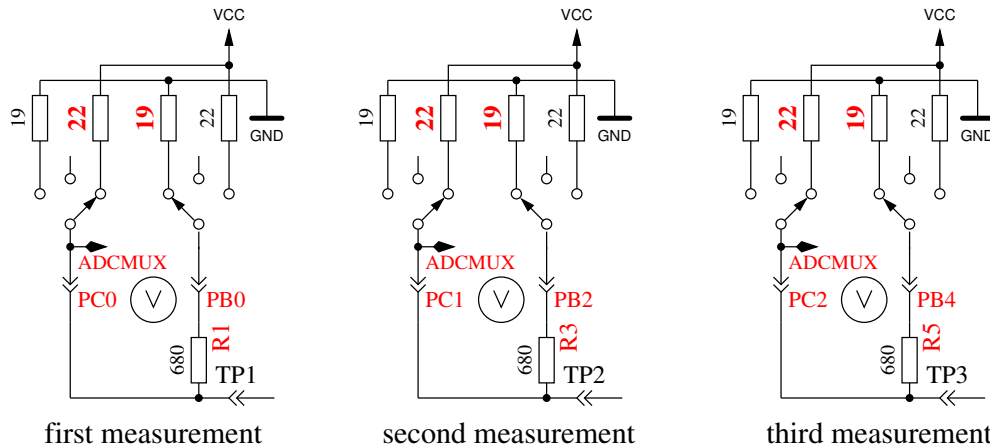

Figure 5.48: Measurement of internal resistance of Port C switched to VCC
9. **Measuring of internal resistance of port outputs switched to the VCC (+)signal.** The needed current is generated with to GND connected 680Ω resistors . It are the same measurements as those in test 8 to the other side as you can see in Figure 5.48. With the following steps the resistance is computed: To get the current, the following is computed: $(VCC - (resultoftest8) - (resultoftest9))/680$. To get both resistor values, the voltage (result of test 8 or 9) is divided by this current. The result for this test will then be notified in row 1 with the text "RI.Hi=", the resistance value (Ω) to the GND side is displayed in row 2 with the text "RI.Lo=". Beginning with version 1.06k of the software, the port output resistance